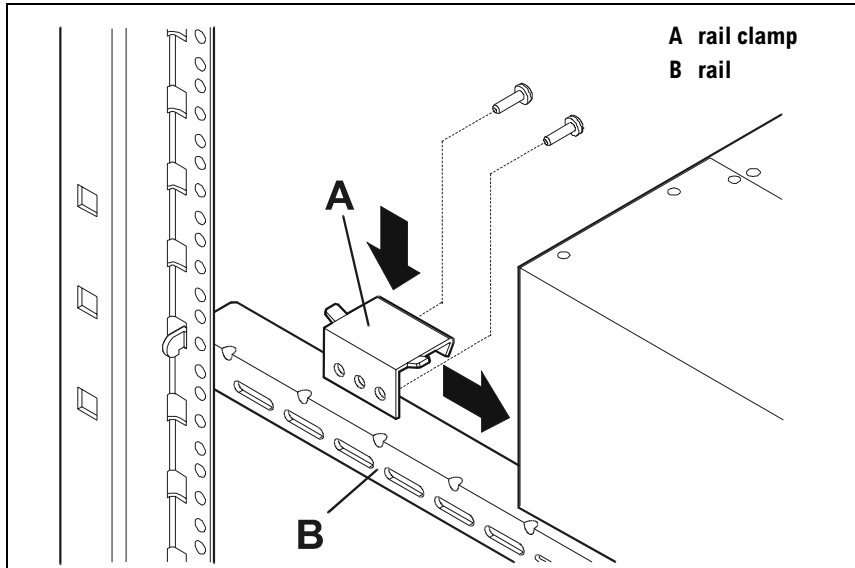

Figure 29 Legacy Rack Rail Clamp
- a. If you are installing the disk system in an HP legacy rack, set the clamp (A in Figure 29) on top of the rail (B) so that the tabs point up and the screw holes are on the slotted side of the rail. Skip to substep c.